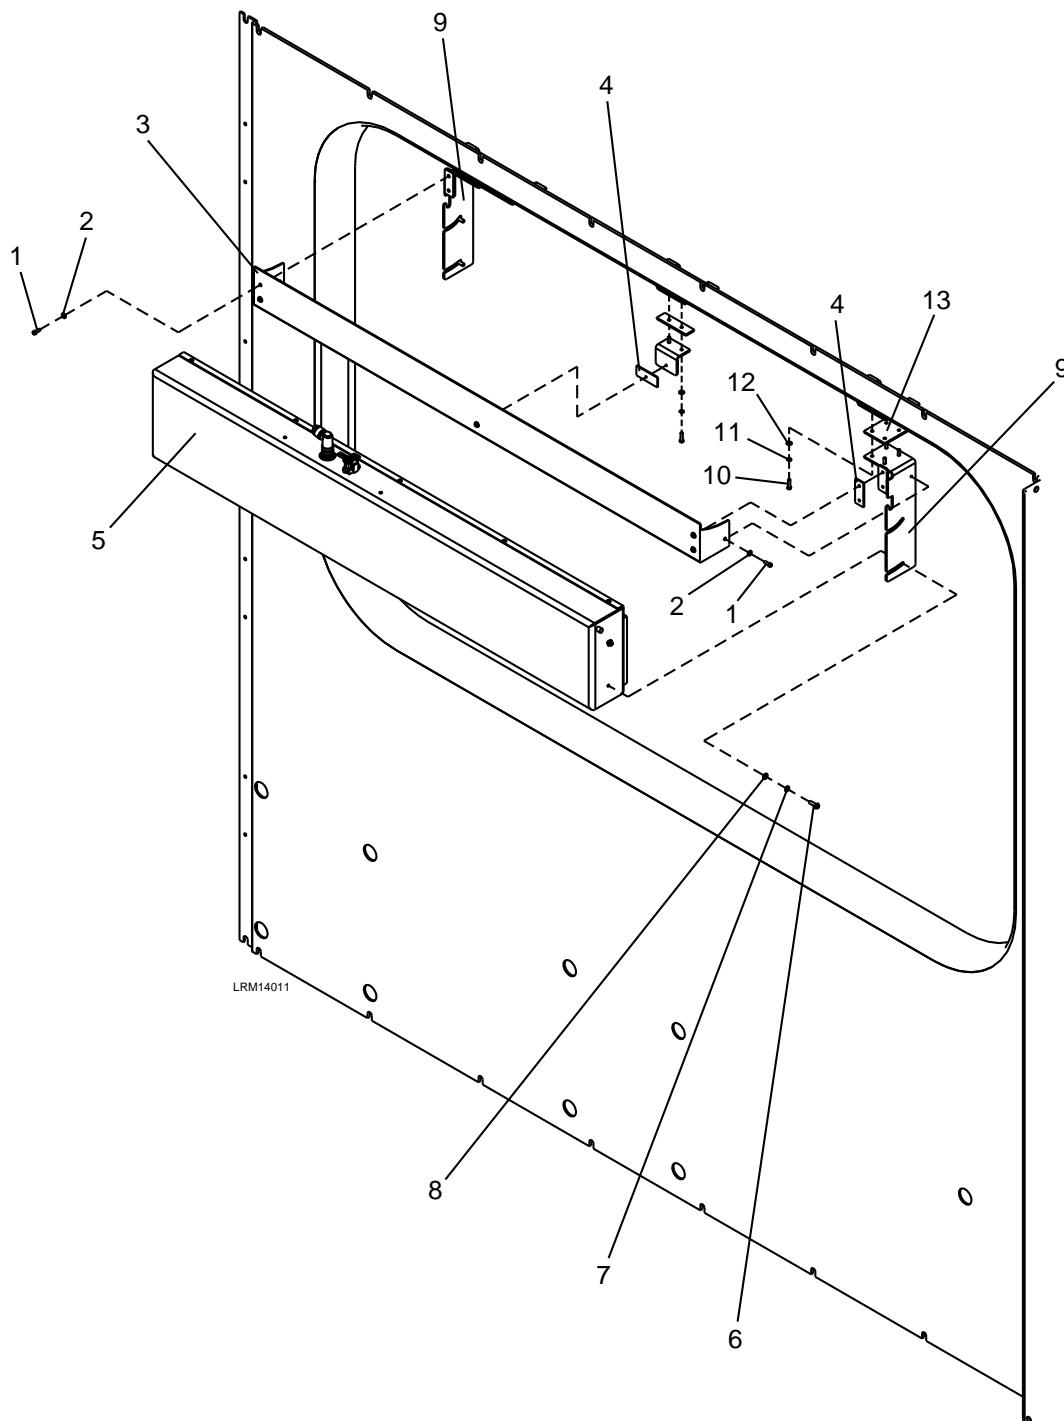

Figure 8-22: Side Destination Sign
1. Remove the seven M4 x 12 screws (1) and M4 plain washers (2) from the cover (3). See Figure 8-22.
2. Remove the cover (3) and the three packing (4).